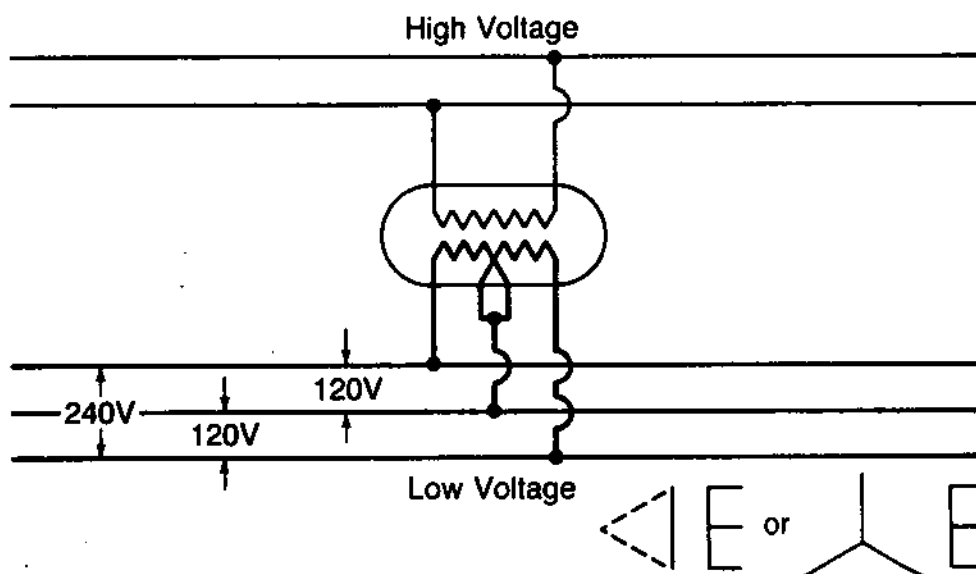

Fig. 25 – Three-Wire Secondary-Series Connected
a. *The single-phase three-wire secondary, series connection shown in Figure 25 is the most commonly used connection for small distribution transformers where the three-wire secondary is supplied at 120/240 volts. A similar connection may be used for 240/480 volts. The primary may be supplied from a single-phase line, two wires of a three-phase line, or one line wire and a neutral of a three-phase line.*